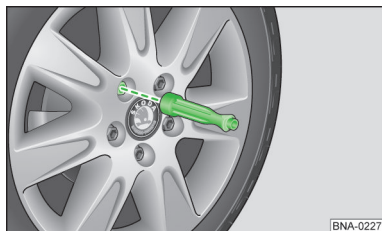

Fig. 81
- Completely remove the slackened wheel bolts using the hexagon socket in the screwdriver handle » fig. 81 and deposit on a clean base.